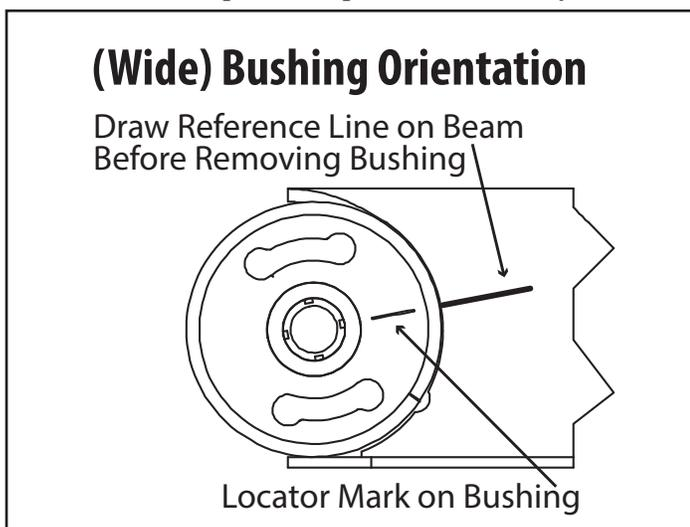

Figure 8.
1. Draw/scribe a line on the trailing arm beam using the locator mark on the installed bushing as the reference (Figure 8).